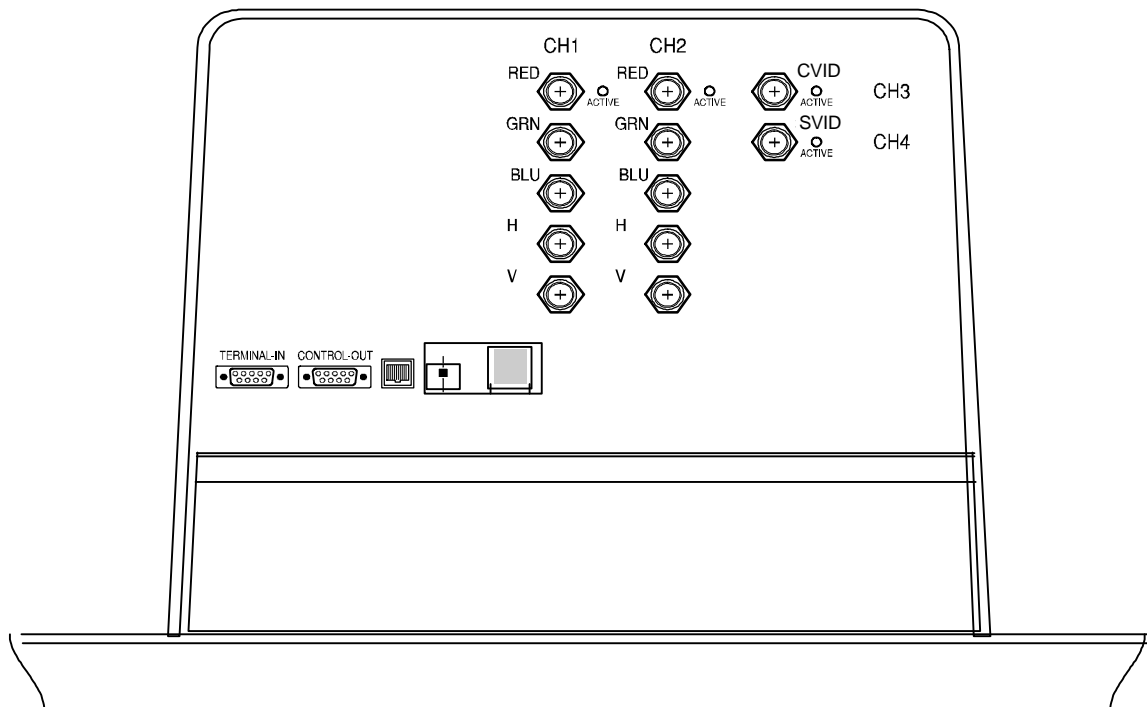

Figure 3-8. Series 300 Projector back panel connections.
All connectors are on the rear panel of the projector. Figure 3-8 shows the rear panel connections of the Series 300 Projector.
Signal input jacks are located on the rear panel of the projector. Their positions are illustrated in Figure 3-8, above.
- Connect the signal inputs to the jacks at the projector rear panel corresponding to the signals you are using. (*Figure 3-8*)
- If you are using an Extron switcher, connect it to the output marked CONTROL OUT. (*Figure 3-8*)